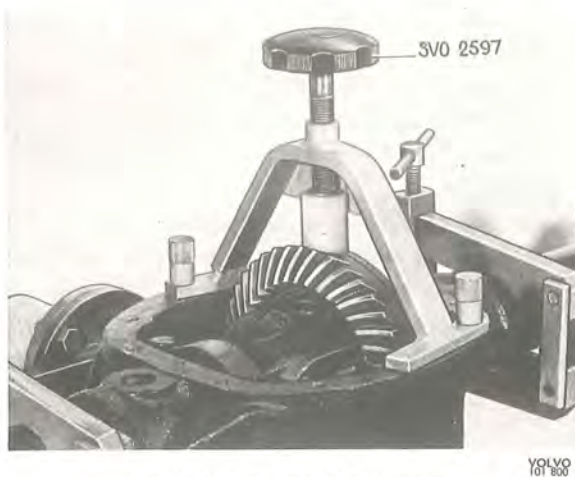
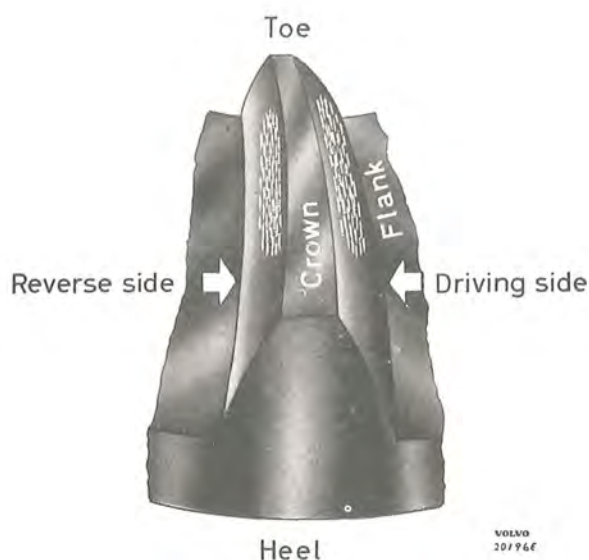

Fig. 4-159. Brake tool for differential
Fig. 4-160. Correct tooth contact
2. Fit on brake tool SVO 2597 as shown in Fig. 4-159. Apply marking blue to several teeth at three points on the crown wheel. This can serve as a check on the crown wheel for possible warping. Rotate the pinion 10—12 turns in both directions and check the mesh marking pattern. With correct tooth mesh, the mesh marking pattern should be horizontal in the middle of the tooth but somewhat nearer to the toe than the heel. The patterns on the reverse side and driving side should coincide with each other, see Fig. 4-160. If the patterns do not coincide, the pinion location must be adjusted